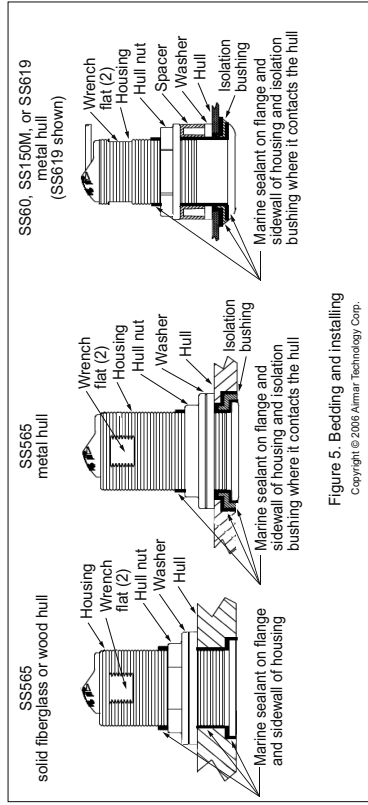

Figure 5. Bedding and installing
**Stainless steel housing in a metal hull** - To prevent electrolytic corrosion, the stainless steel housing must be isolated from the metal hull. Slide the isolation bushing onto the housing (see Figure 5). Apply additional marine sealant to the surfaces of the bushing that will contact the hull, filling any cavities in and around the isolation bushing.